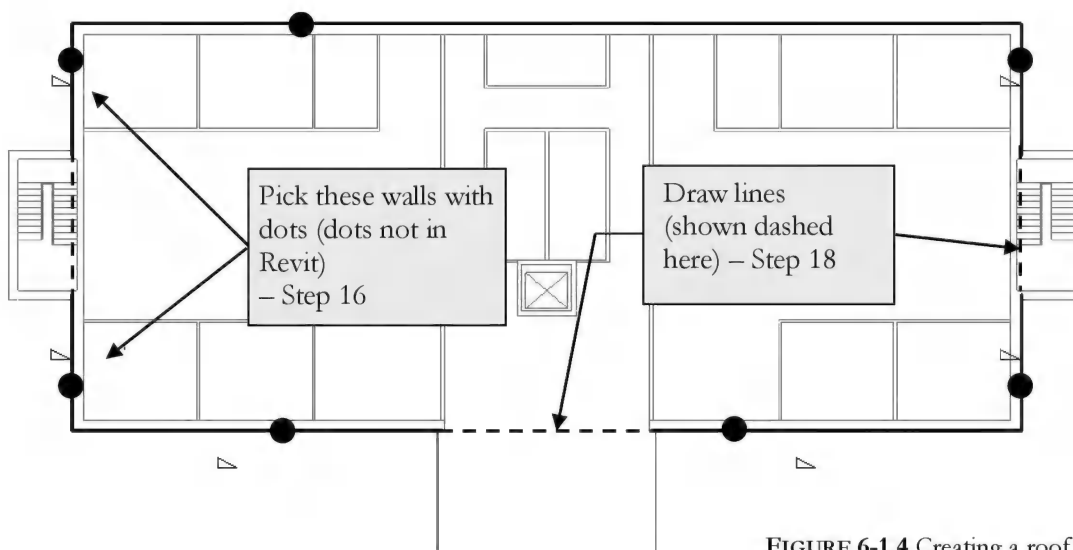

FIGURE 6-1.4 Creating a roof
16. You are now prompted to select exterior walls to define the footprint. Select **ONLY** the wall segments that define the 120'-0" x 60'-0" portion of the building (Figure 6-1.4). Pick the exterior side of the walls.
You will notice in Figure 6-1.4 that there are three sections along the perimeter of the rectangle that are open because no wall is available to pick. You will need to draw three lines to close the "footprint."
18. Draw three lines to create a complete rectangle, making sure you use the snaps to accurately snap to the endpoint of the lines already present; one line across the atrium and the other two at the stair shafts (Figure 6-1.4).